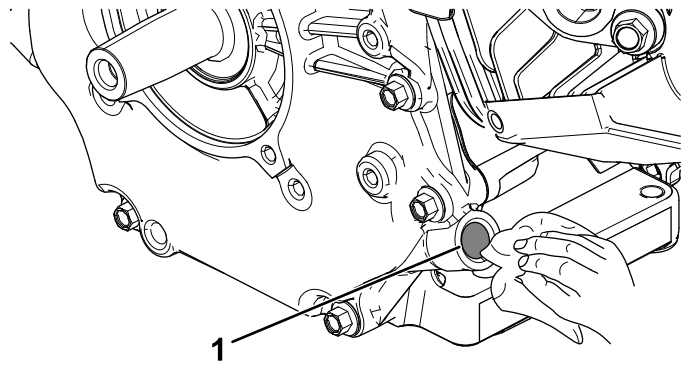

Figure 7
3. Thoroughly clean the dipstick-tube opening where you install the dipstick tube (Figure 7).